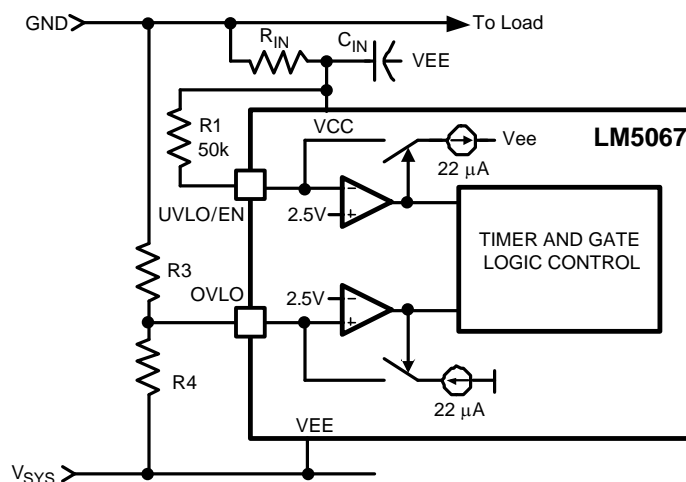

Figure 16. UVLO = POREN
**Option C:** The minimum UVLO level is obtained by connecting the UVLO pin to VCC as shown in Figure 16. Q1 is switched on when the operating voltage reaches the POREN threshold (≈8.4V). The OVLO thresholds are set by R3 and R4 using the procedure in Option B.